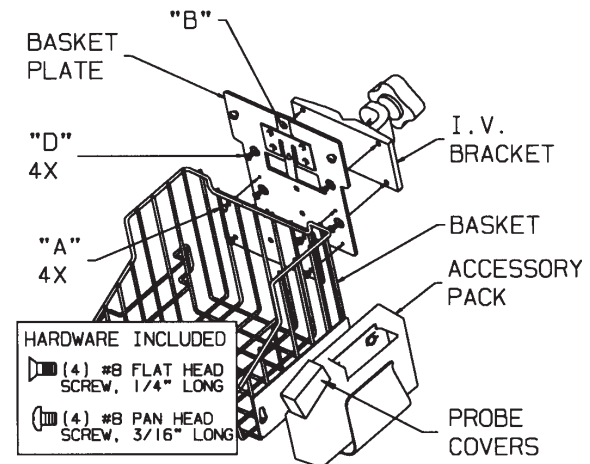

Figure 2
(Refer to figure 2 for the following instructions)
2) Assemble BASKET to BASKET PLATE by inserting (4) #8 X 3/16" long phillips screws through basket holes marked "A" and into four threaded holes in BASKET PLATE. Securely tighten screws.
3) *For Model #5200-62 only*, attach ACCESSORY PACK by orienting as shown in figure 2 and inserting onto side plate of BASKET and pushing up. This will lock ACCESSORY PACK onto BASKET.
1) Attach BASKET PLATE to I.V. BRACKET by inserting (4) #8 X 1/4" long flat head phillips screws through four countersunk holes, designated "D", into four threaded holes in bracket. Securely tighten screws.
3) *For Model #5200-64 only*, attach ACCESSORY PACK by orienting as shown in figure 2 and inserting onto side plate of BASKET and pushing up. This will lock ACCESSORY PACK onto BASKET.